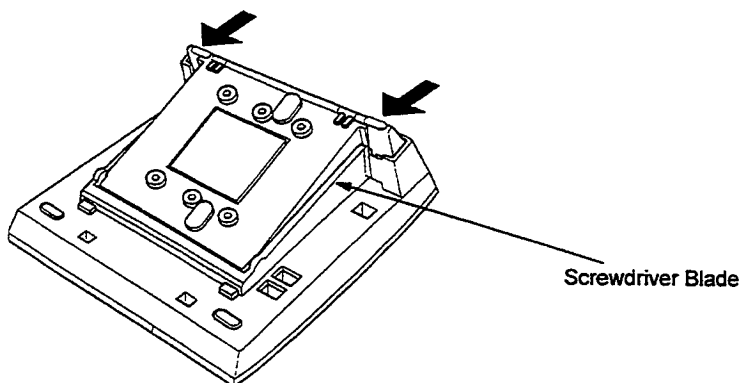

Figure 4-3 Removing the Cover on the Multiline Terminal
3. Remove the cover by pressing the areas indicated in Figure 4-3 Removing the Cover on the Multiline Terminal. Using a straight blade screwdriver, press the blade between the cover and the base to release the tabs (refer to the diagram). When both tabs are released, lift the cover.